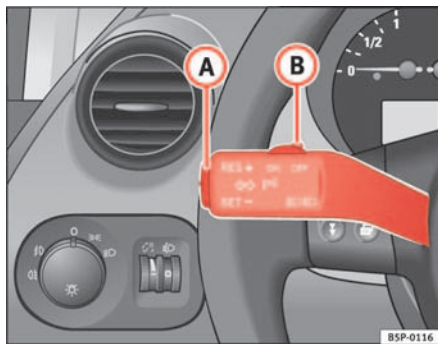

Fig. 139 Turn signal and main beam lever: Switch and rocker switch for CCS
- Push the switch ⇒ fig. 139 (B) to the left to the position **ON**.